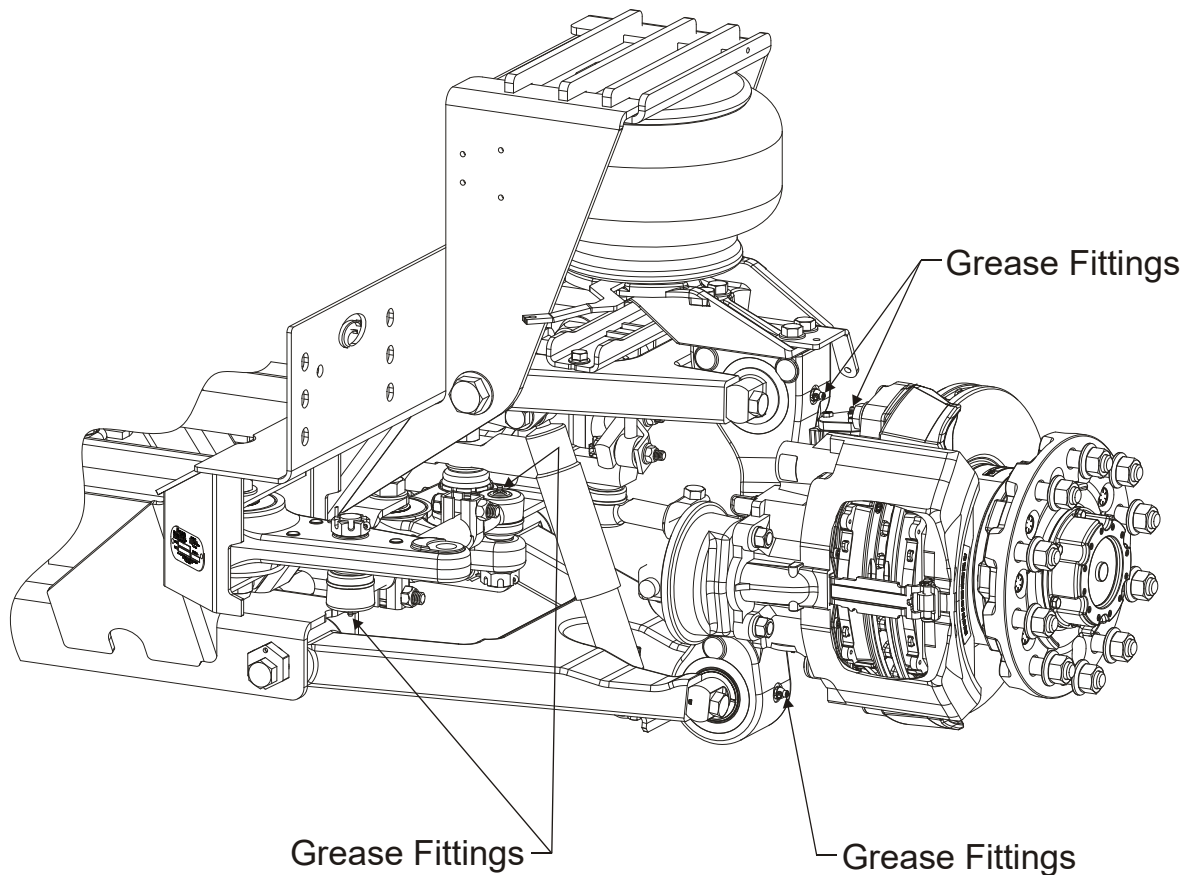

Figure 4 – Location of lubrication fittings. Note: Left side only shown.
2. Apply lubricant to grease fitting until new lubricant discharges from the dust boot (**Figure 4**).
2. Apply lubricant to the S-cam tube until new lubricant discharges from the S-camshaft bushing seal next to the automatic slack adjuster. (**Figure 4**).
3. Apply lubricant to the automatic slack adjuster until new lubricant discharges from the cone clutch adjacent the adjusting hex nut. (**Figure 4**).